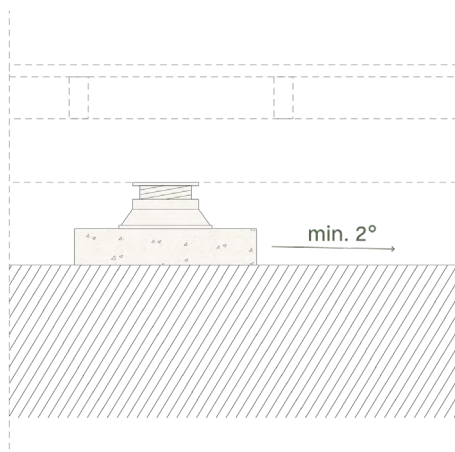

Fig. 2
- Form a minimum 2° slope away from the building to prevent water accumulation (see Fig. 2).